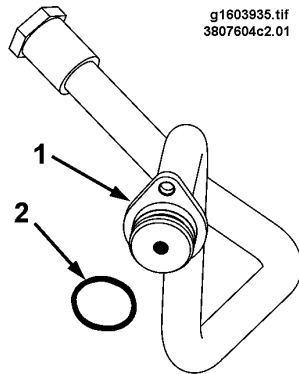

Figure 35 Typical Coolant Line Peanut Fitting
Some heater line connections now employ a peanut fitting (1, Figure 35) that is sealed with an O-ring (2) and secured with one nut. Before installing a peanut fitting always verify that a new O-ring is in place.